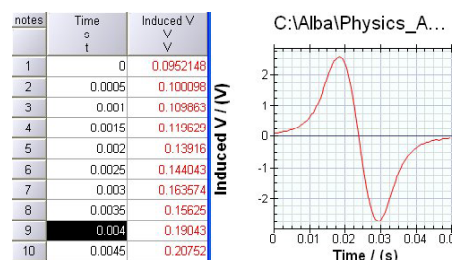

Figure 45
- Draw a voltage/time graph (Figure 45).